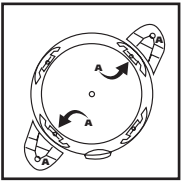

FIGURE 3
2. With tank drain facing you, take caster feet marked with letter **A** and place in slots on left front and right rear of tank also marked with the letter **A**. **FIGURE 3**.